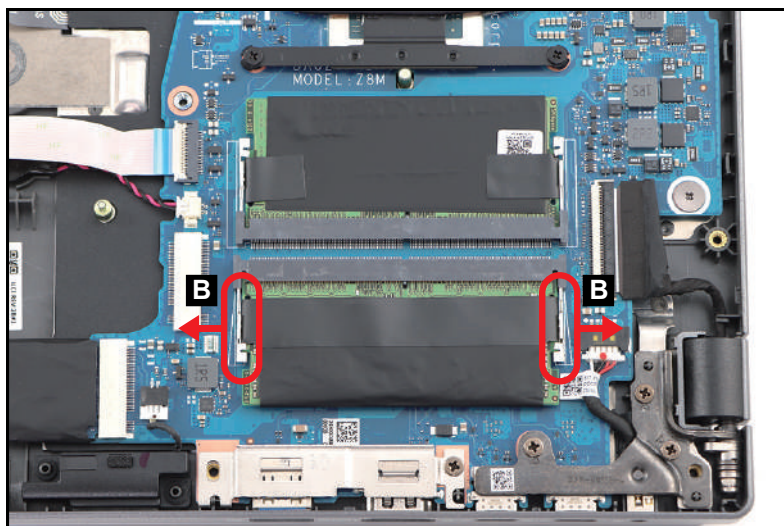

Figure 3-28. DIMM Module Removal
2. Push the DIMM module clips (B) outwards (Figure 3-28).